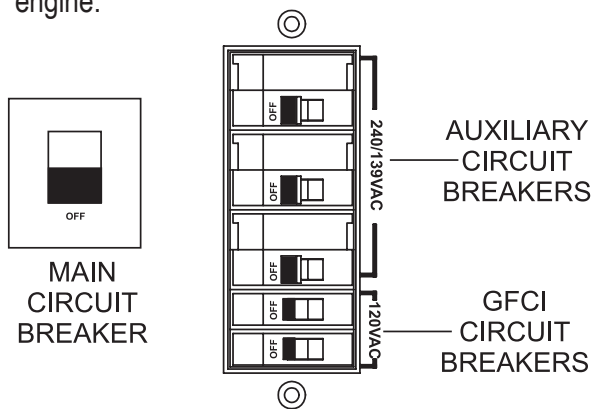

Figure 44. Main, Auxiliary, And GFCI Circuit Breakers (OFF)
1. Place the **main, auxiliary, and GFCI** circuit breakers (Figure 44) in the **OFF** position prior to starting the engine.